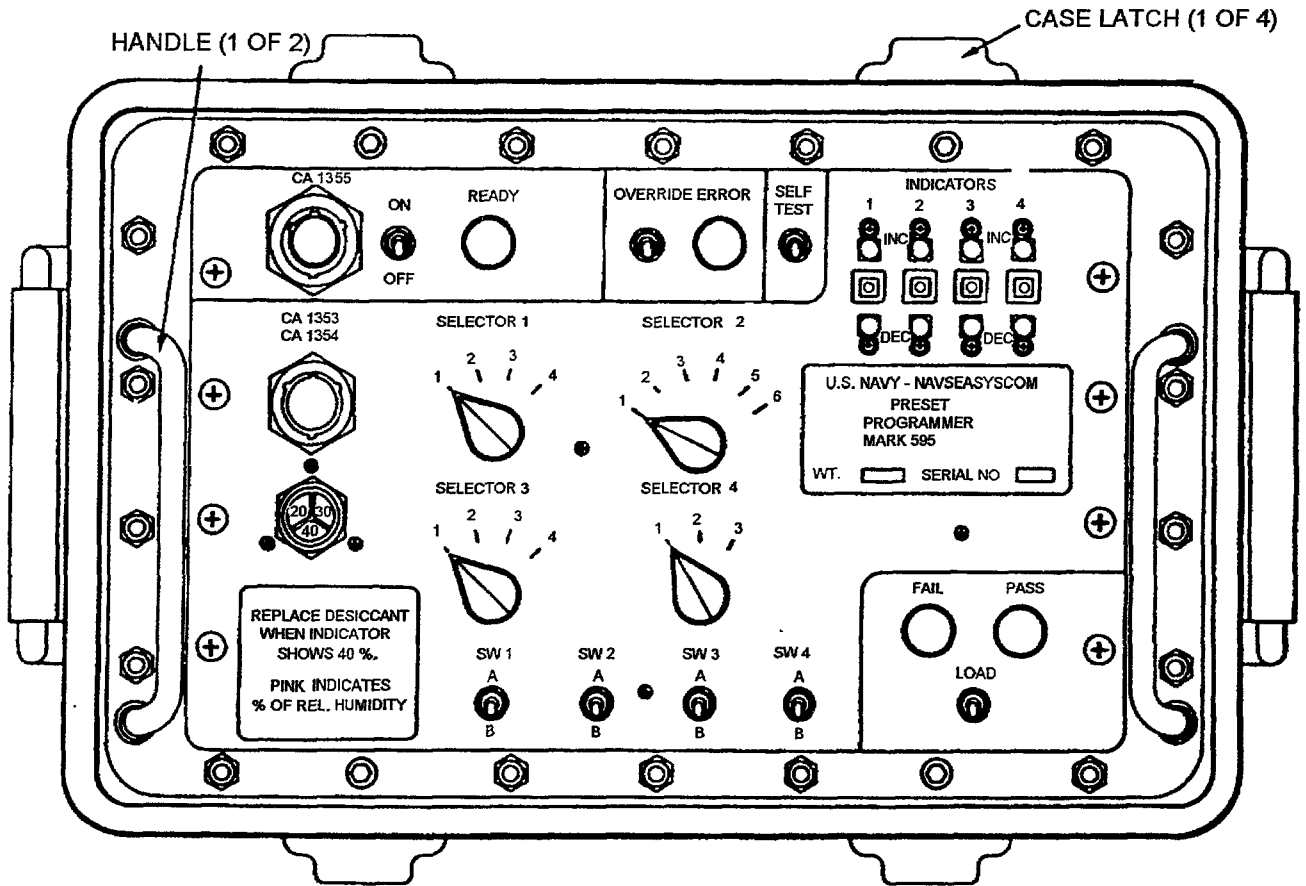
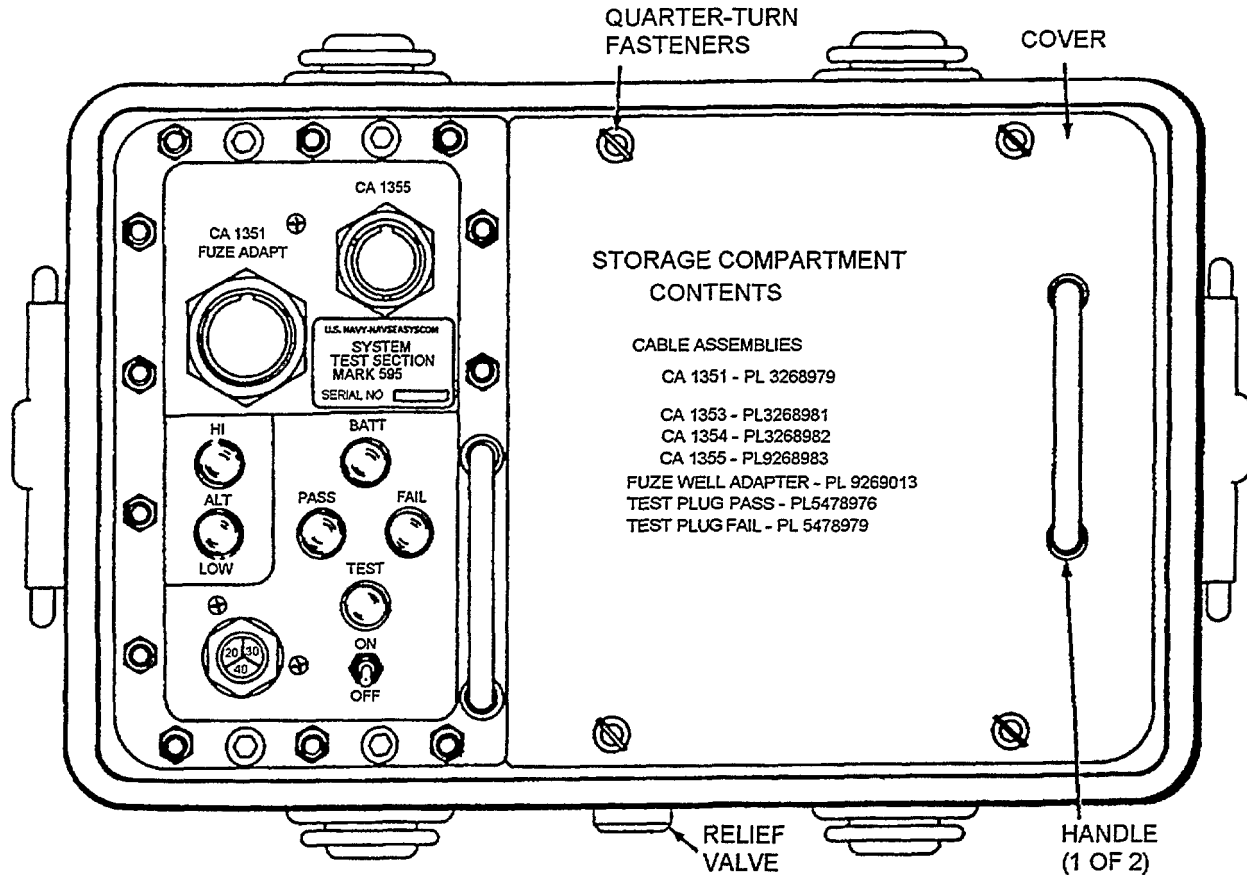
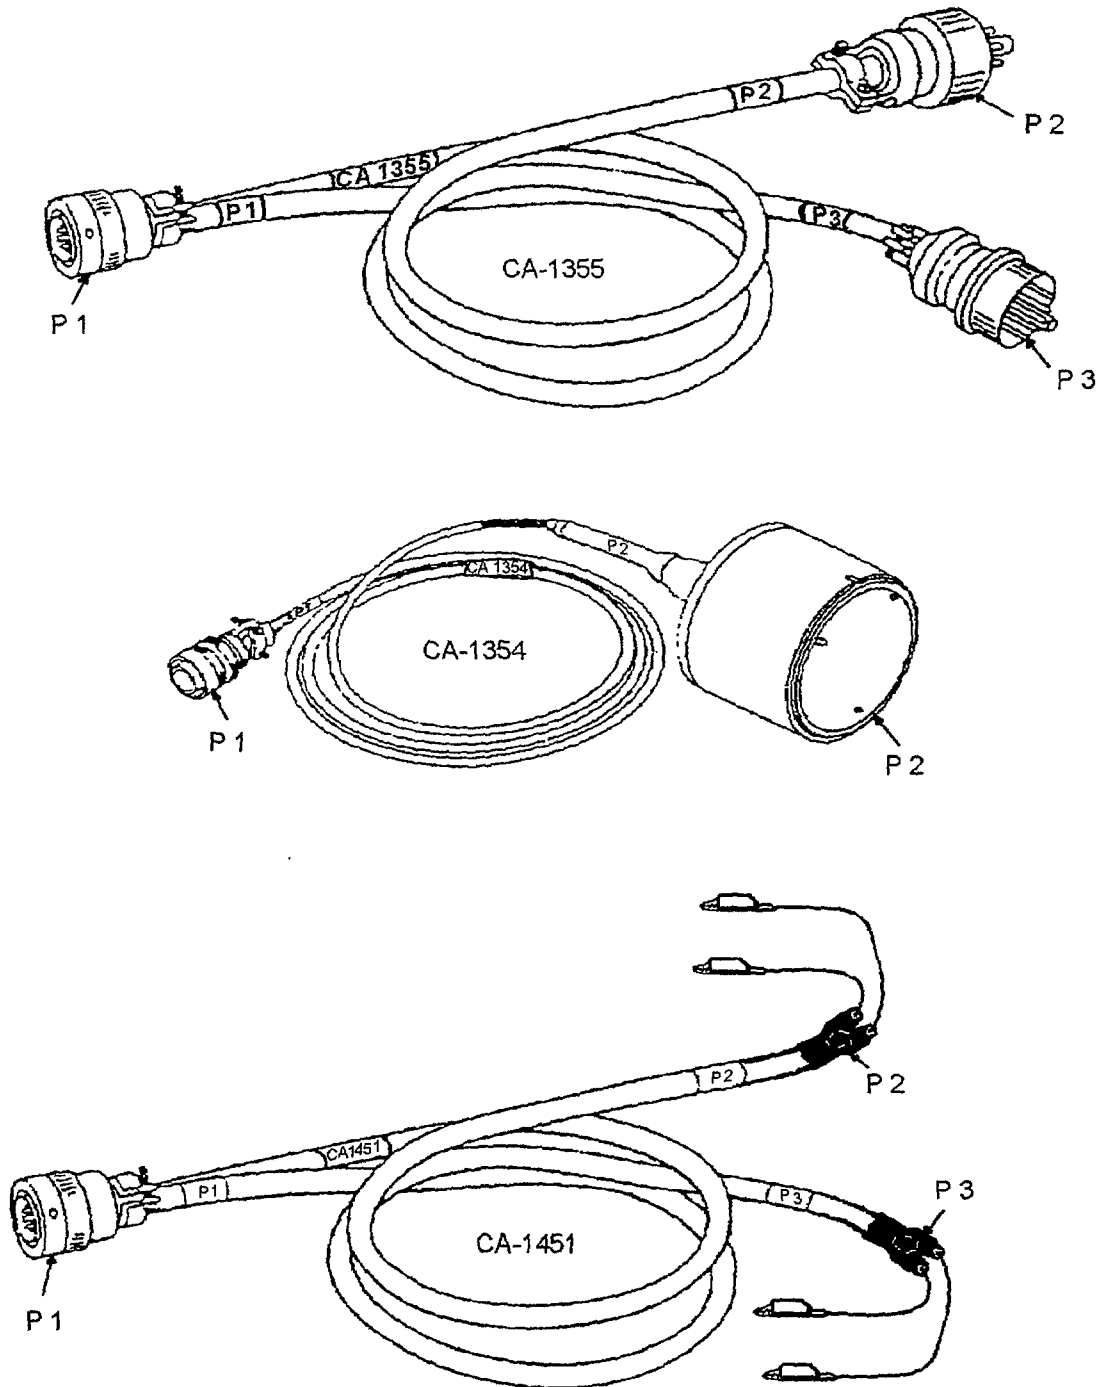

Figure 4-2D. Test Set Mk 595 Mod 1, Top Section (Preset Programmer Section)
Figure 4-2E. Test Set Mk 595 Mod 1, Bottom Section (System Test Section)
Figure 4-2F. Cable Assemblies CA-1355, CA-1354, and CA-1451
- b. Separate the top section (preset programmer section, Figure 4-2D) from the bottom section (system test section, Figure 4-2E).
- e. Open test set storage compartment (Figure 4-2E) and remove Cable Assembly CA-1354 (Figure 4-2F).